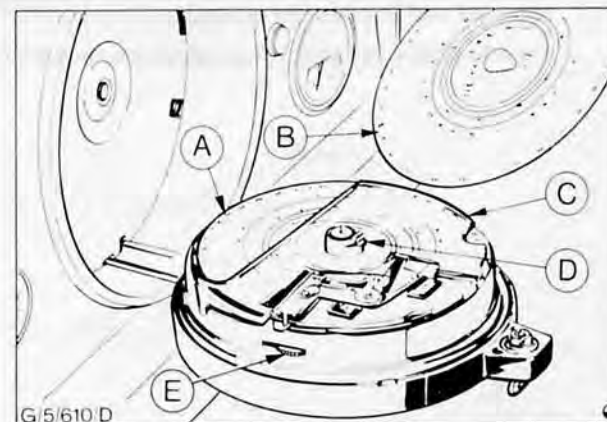

Fig. 5. Insertion of record chart (dual driver)
2. Open the front of the tachograph (this should only be done with the vehicle stationary). If the tachograph clock shows an incorrect time, it should be adjusted by rotating the knurled wheel, 'E' in Fig. 5 in either direction.
3. Lift up the chart table, 'C' in Fig. 5.